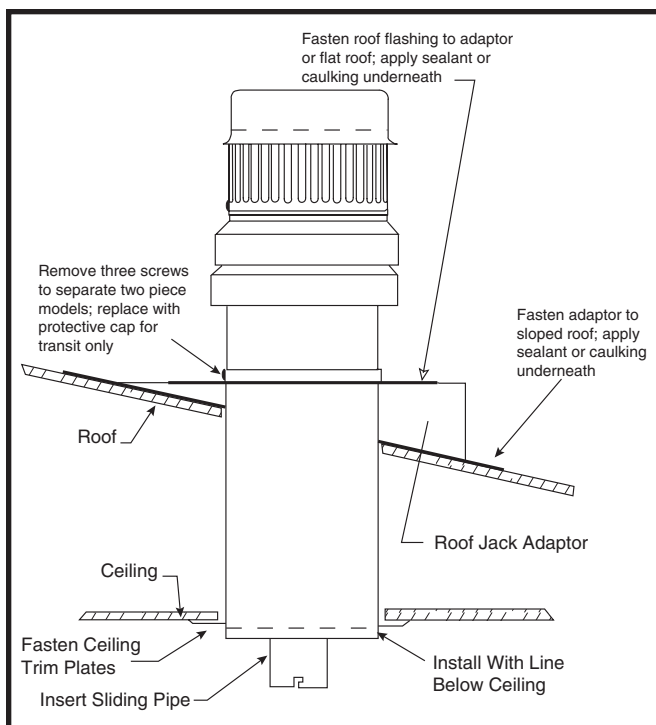
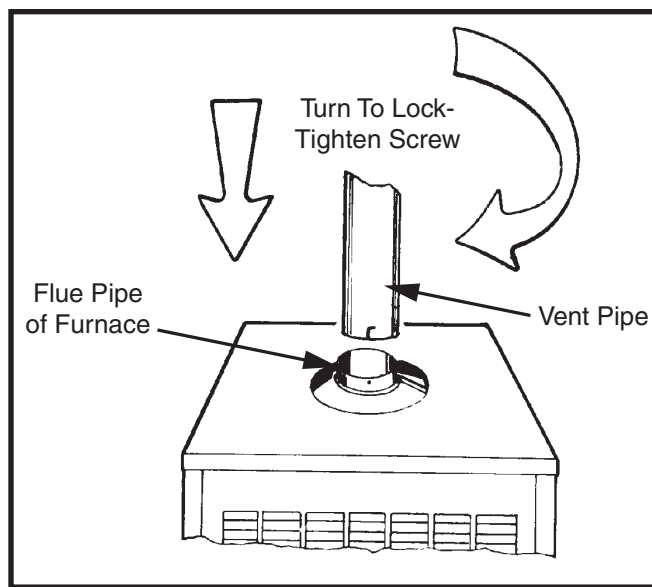

Figure 10. Roof Jack
Figure 11. Vent Pipe Installation
6. Twist the vent pipe to lock the two pipes together and tighten the screw. All joints and connections should be inspected before start up of the furnace. See Figure 10 & Figure 11 (page 12).